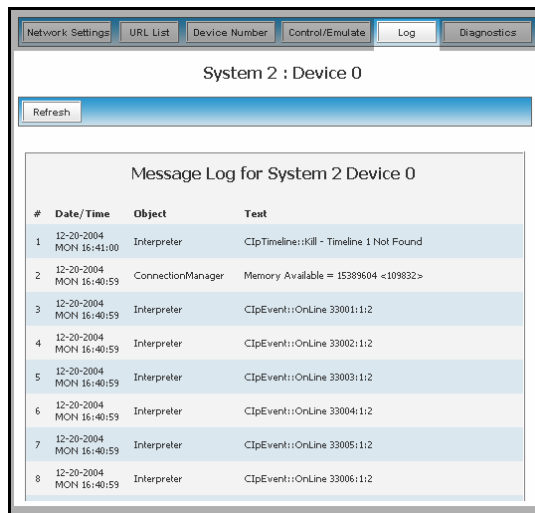

FIG. 71 Log dialog
- Click the **Log** button (FIG. 71). This dialog allows the user to view the log for the selected device (*currently only the Master supports this feature*).